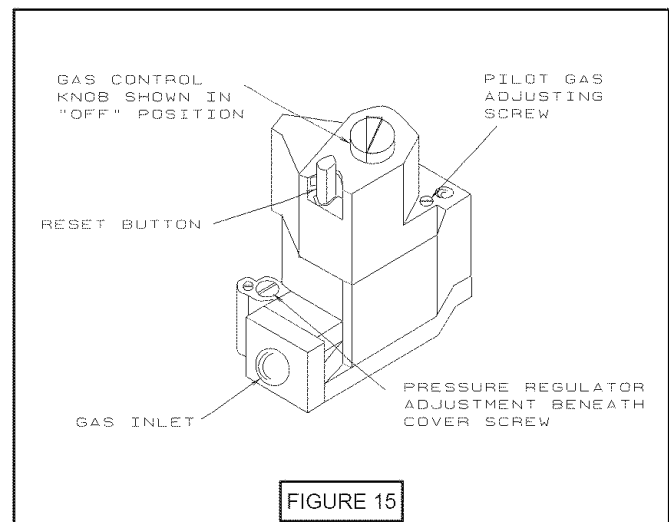

FIGURE 15
5. Turn gas control knob clockwise to "OFF." (Figures 15 and 16)
Gas input to the boiler can be adjusted by removing the protective cap on the pressure regulator (*Figures 14-16 on pages 15-16*) and turning the screw clockwise  to increase input and counterclockwise  to decrease input. Natural gas manifold pressure should be set at approximately 3.5 inches water column. Propane gas manifold pressure should be set at approximately 11 inches water column. These manifold pressures are taken at the outlet side of the gas valve. (*Figures 15 and 17 on pages 16-17*) To check for proper flow of natural gas to the boiler, divide the input rate shown on the rating plate by the heating value of the gas obtained from the local gas company. This will determine the number of cubic feet of gas required per hour. With all other gas appliances off, determine the flow of gas through the meter for two minutes and multiply by 30 to get the hourly rate. Make minor adjustments to the gas input as described above.